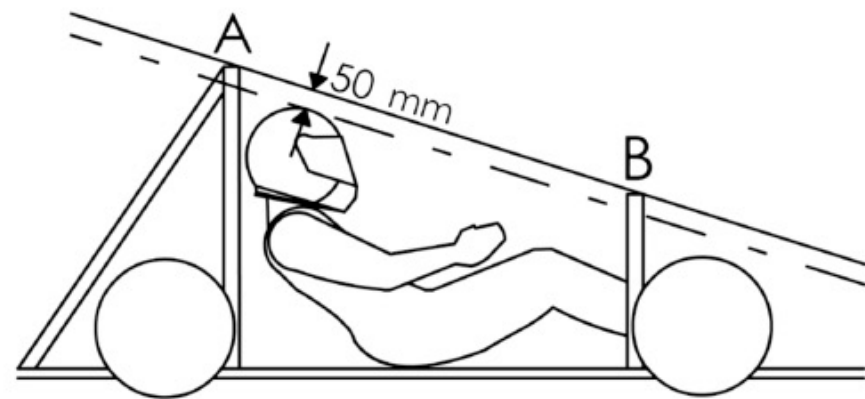

Figure 2.1
- T10.1. The vehicle must have front and rear roll bars offering protection in accordance with the diagrams shown here – the helmeted head of all drivers must be at least 50 mm below the line A-B as shown. See Fig 2.1